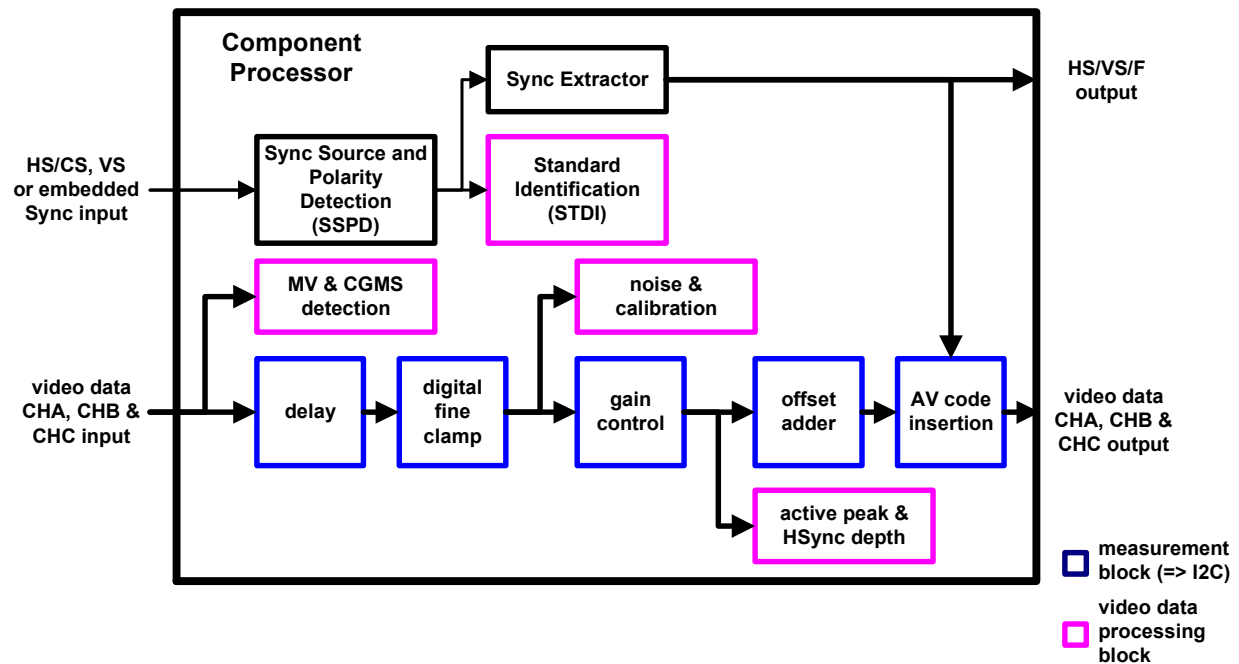

Figure 8: Component Processor Block Diagram
A simplified block diagram of the Component Processor (CP) on the ADV7181C is shown in Figure 8. Data is supplied to the CP from the Data Preprocessor (DP). The CP circuitry is activated under the control of PRIM_MODE[3:0] and VID_STD[3:0]. Refer to Section 4 for more details on PRIM_MODE[3:0] and VID_STD[3:0].